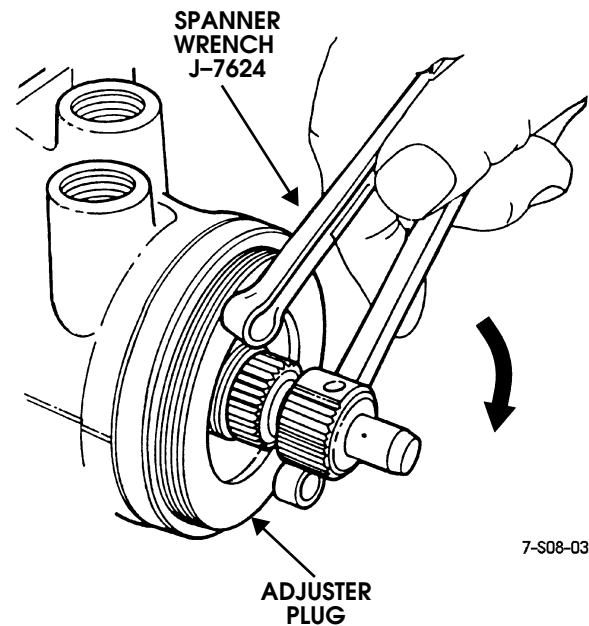

Figure 8-65: Seating Adjuster Plug
3. Tighten adjuster plug with spanner wrench J-7624 (Figure 8-65). Tighten plug until it and wormshaft bearing and races are fully seated (bottomed) in housing.